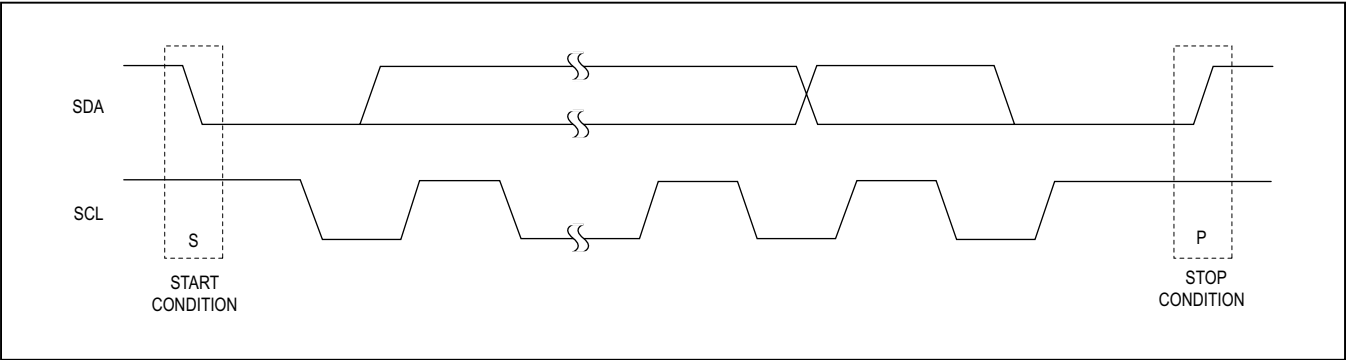

Figure 29. START and STOP Conditions
Both SCL and SDA remain high when the interface is not busy. A master signals the beginning of a transmission with a START (S) condition by transitioning SDA from high to low while SCL is high (see Figure 29). When the master has finished communicating with the slave, it issues a STOP (P) condition by transitioning SDA from low to high while SCL is high. The bus is then free for another transmission.